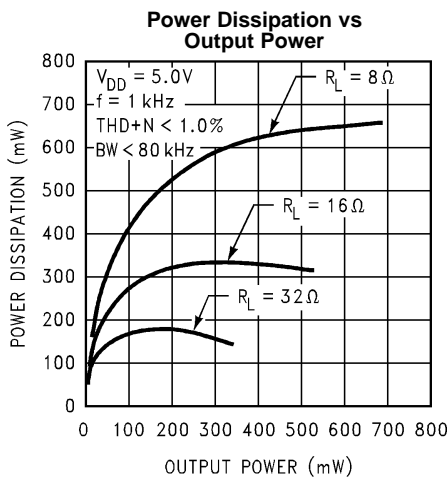

Figure 21.
- (1) All voltages are measured with respect to the ground pin, unless otherwise specified.
- (2) Absolute Maximum Ratings indicate limits beyond which damage to the device may occur. Operating Ratings indicate conditions for which the device is functional, but do not ensure specific performance limits. Electrical Characteristics state DC and AC electrical specifications under particular test conditions which ensure specific performance limits. This assumes that the device is within the Operating Ratings. Specifications are not specified for parameters where no limit is given, however, the typical value is a good indication of device performance.
- (3) Typicals are measured at 25°C and represent the parametric norm.
- (4) Limits are specified to TI's AOQL (Average Outgoing Quality Level).
- (5) Datasheet min/max specification limits are specified by design, test, or statistical analysis.
- (6) The quiescent power supply current depends on the offset voltage when a practical load is connected to the amplifier.
- (7) The NGY0010A package has its exposed-DAP soldered to an exposed 1.2in^2 area of 1oz printed circuit board copper.
- (8) The DGK0008BA package is thermally limited to 595 mW of power dissipation at room temperature. Referring to Figure 21 in Typical Performance Characteristics, the power dissipation limitation for the package occurs at 300 mW of output power. This package limitation is based on 25°C ambient temperature and $\theta_{JA} = 210^{\circ}\text{C}$. For higher output power possibilities refer to POWER DISSIPATION.